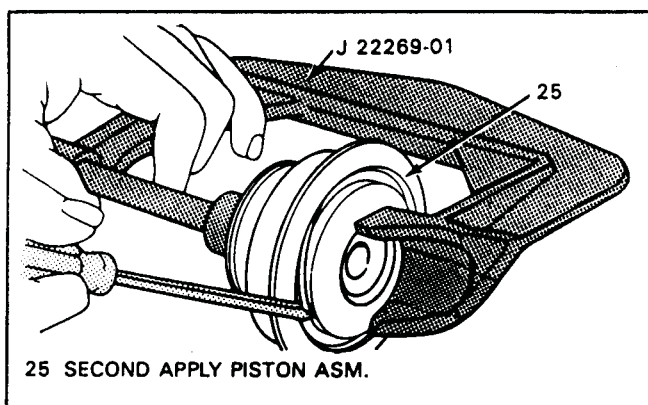

Figure 44
10. Install J-22269-01 compressor on the second apply piston, as shown in Figure 44.
11. Remove second apply piston snap ring as shown in Figure 44.